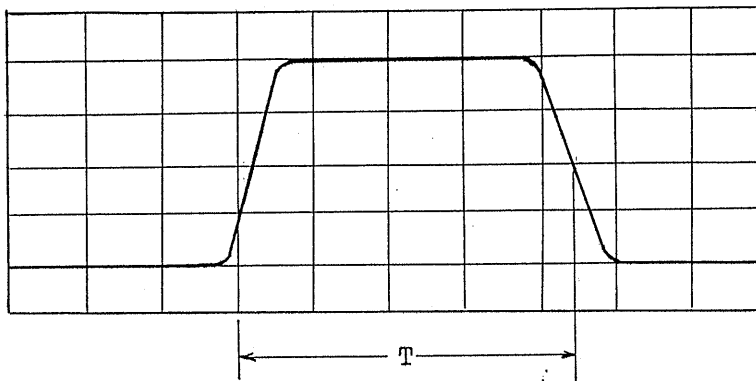

Fig. 4-5
the distance (T) between the two mid-position of the rise and fall edges of the pulse as shown in Fig. 4-5. The pulsewidth now can be calculated by using equation (4-4). When the pulsewidth is the narrow, make use of the 5X MAG sweep magnification operation.